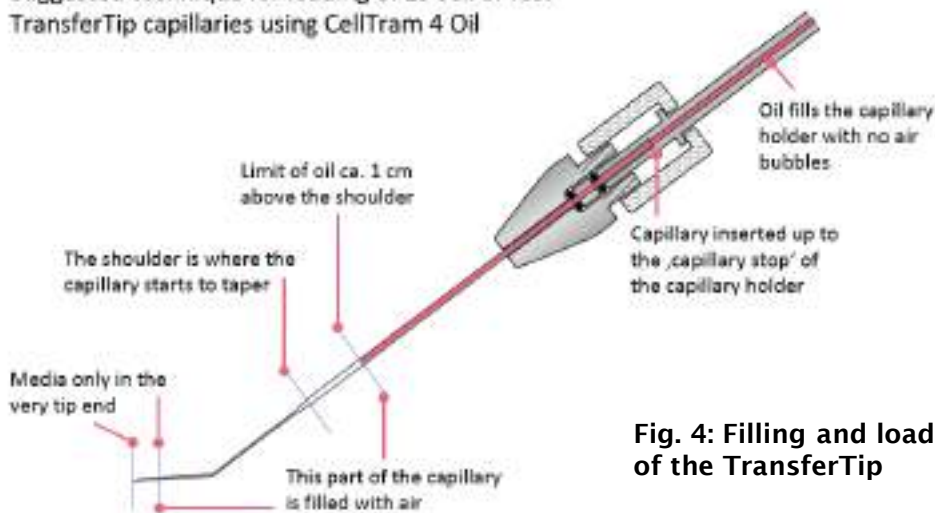

Fig. 4: Filling and loading of the TransferTip
7. Before lowering the microcapillary into the dish, look at your TransferTip and locate the meniscus between the oil and the air. Carefully turn the fine control knob on the CellTram 4 Oil clockwise to move the meniscus down the shaft of the TransferTip until it is approximately 1.0 cm above the place where the TransferTip begins to taper. This is called the shoulder (see Fig. 4). The system works most reproducibly if you leave the oil about 1.0 cm above the shoulder of the capillary. Once you have moved the oil to that point, check it to make sure that it does not drift further down.